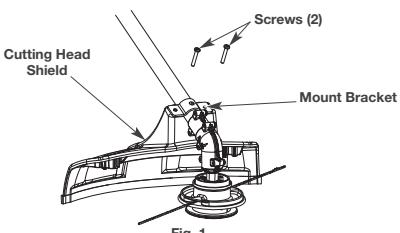

Fig. 1
- Place the cutting head shield onto the mount bracket. Align the holes in the cutting head shield with the holes in the mount bracket. (Fig. 1)